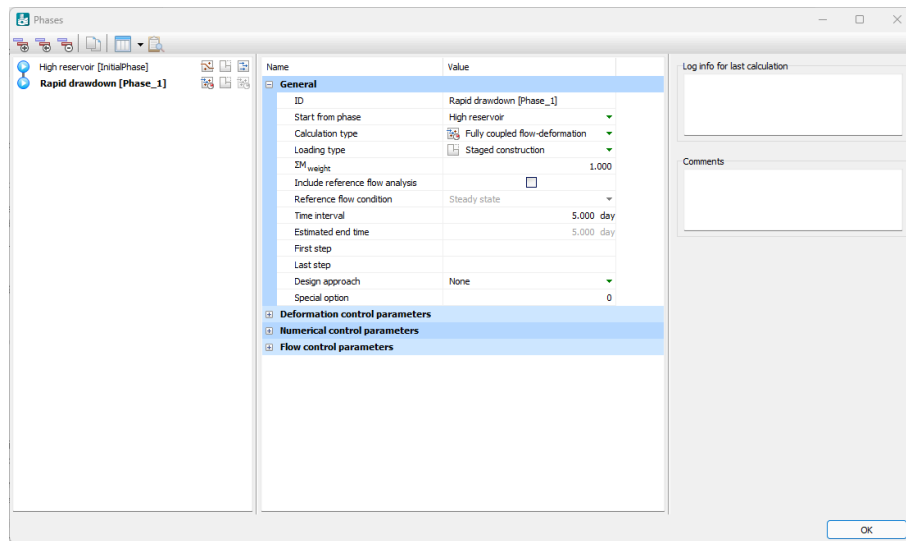

Figure 7–6: Phases window for the Rapid drawdown phase with - fully coupled flow-deformation calculation
- 8 Click **OK** to close the **Phases** window (see Figure 7–6 \(p. 140\)).